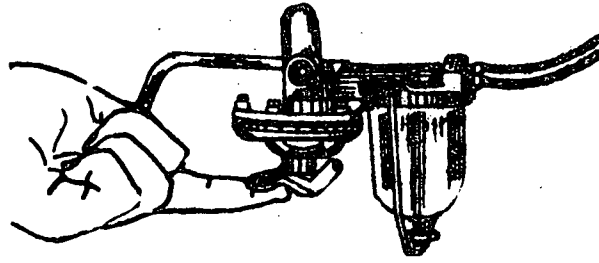

Fig. 3
- d) Actuate the lever of the fuel lift pump (Fig. 3).